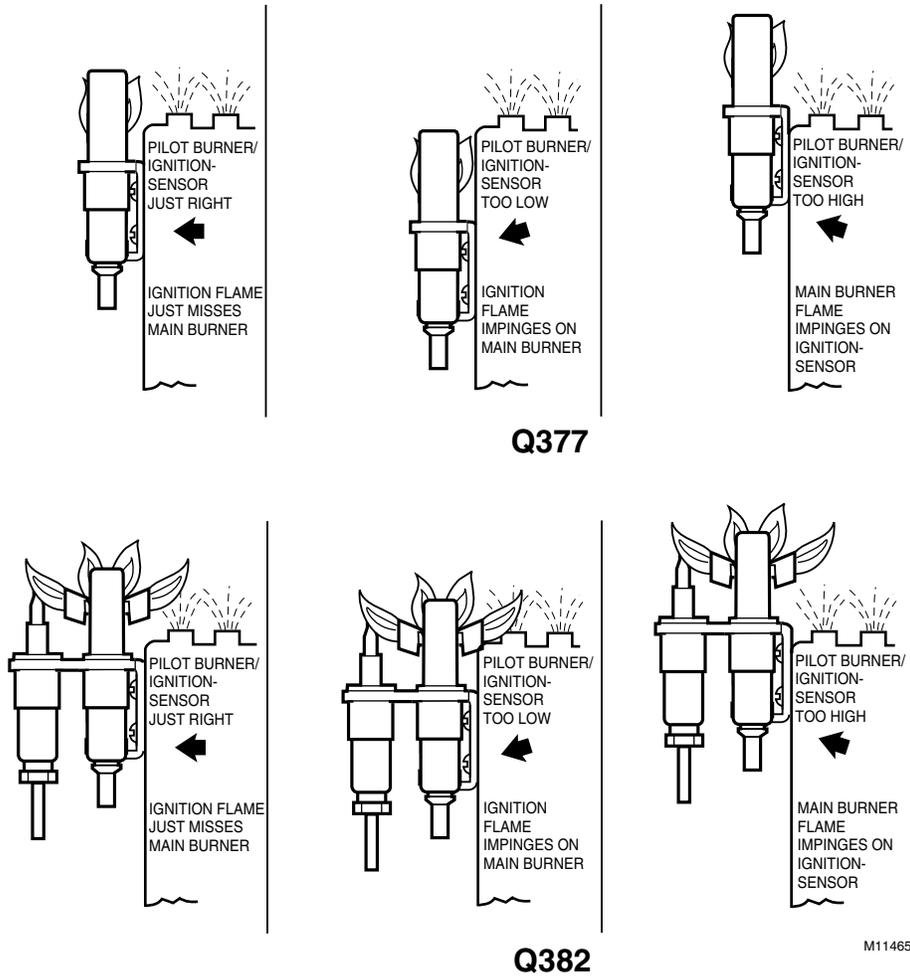

Fig. 18. Location of pilot burner (Q377 and Q382 shown).
3. Mount the pilot burner so the ignition flame remains properly positioned with respect to the main burner flame. See Fig. 18.